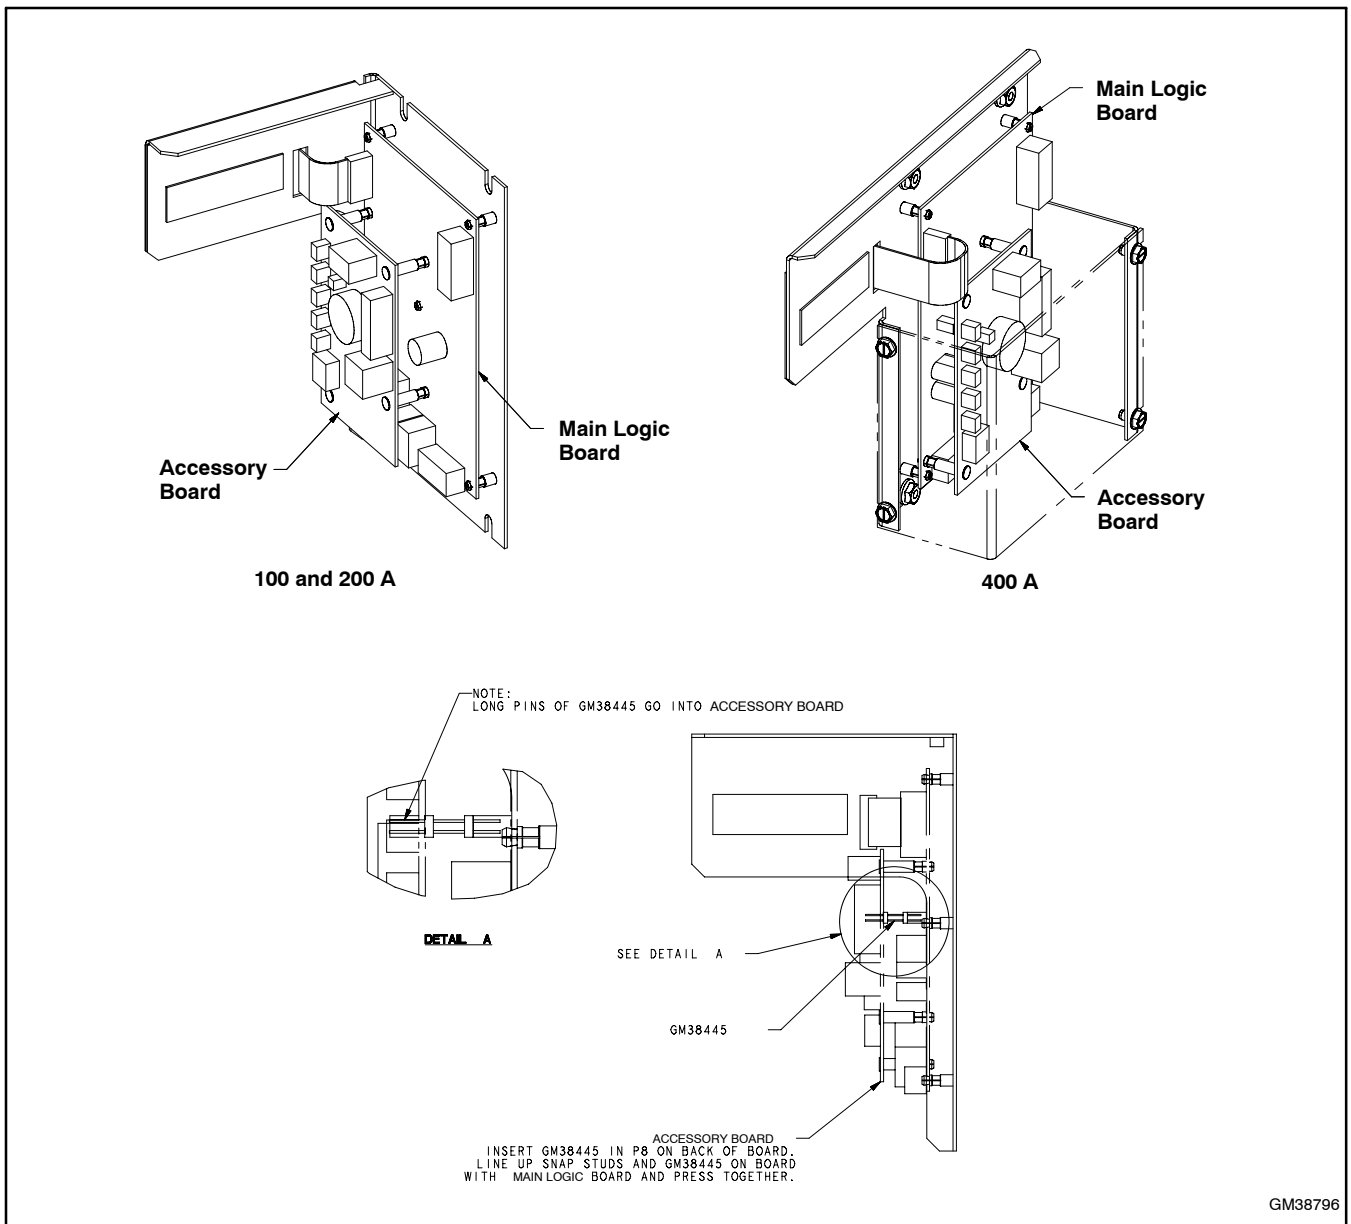

Figure 5-20 Accessory Board Location
4. The accessory board is mounted on stand-offs on top of the main logic board. See Figure 5-20. Disconnect any connections to P9 and P13 on the accessory board.